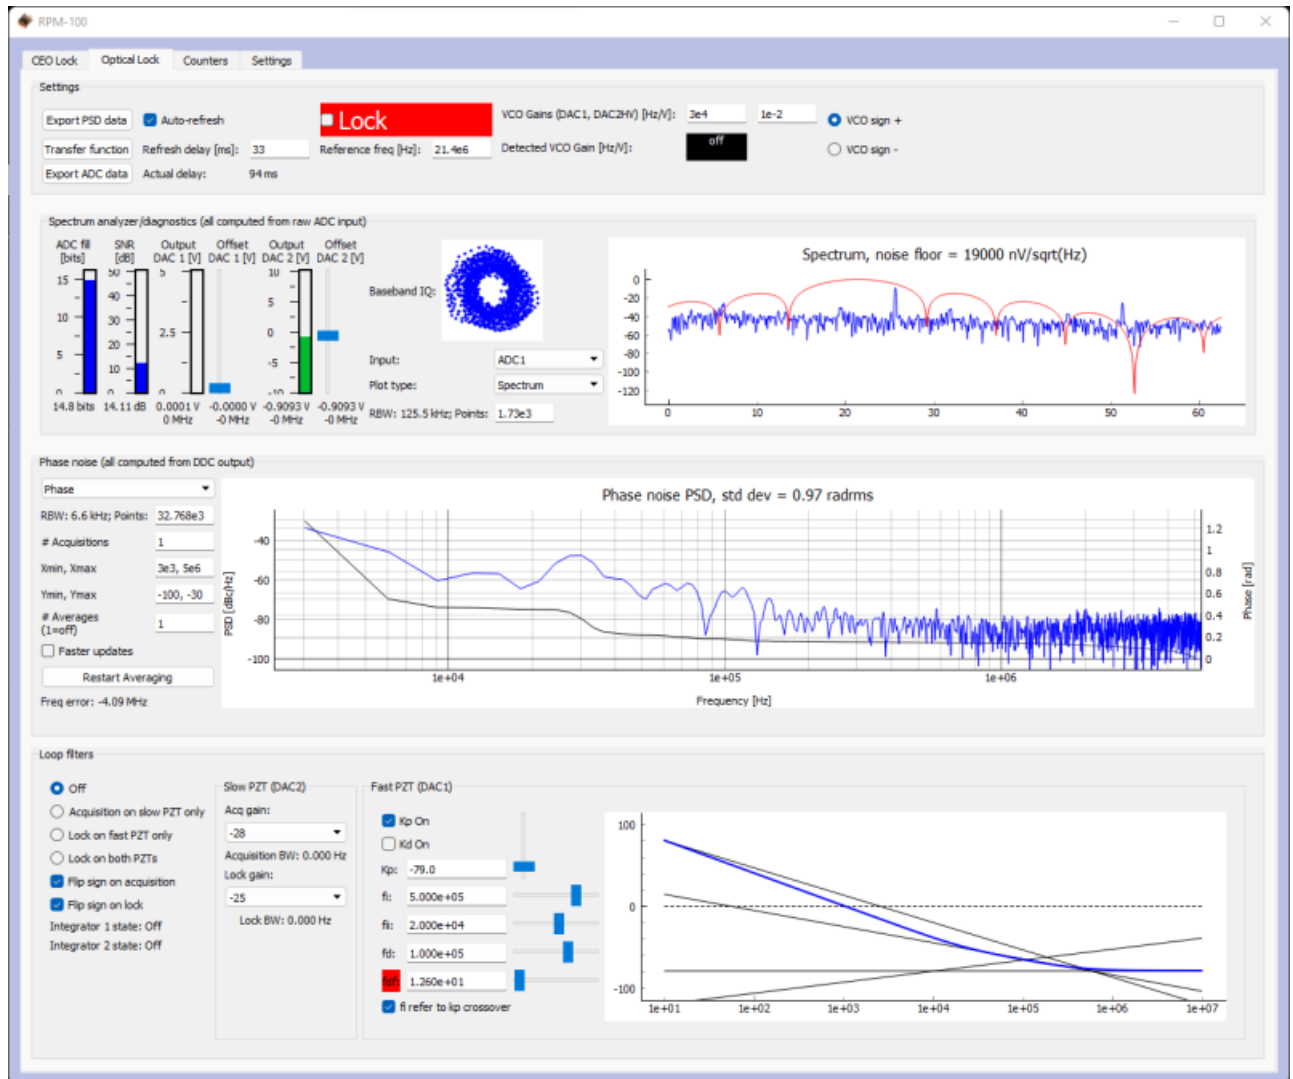

Fig. 11: Centerig f_{opt} on reference frequency (Baseband IQ optimization)
1. Navigate to the "Optical Lock" window. Center the beat note near the reference frequency: adjust the "Offset DAC 1" slider (or your reference laser frequency) until you see a circular Baseband IQ diagram (figure 11).